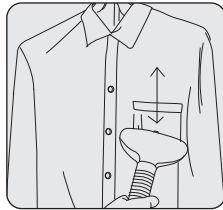

FIGURE 12
2. Grasp the handle, and place the steam head at the bottom of the garment. Steam will rise along the inside and outside of the fabric to remove wrinkles. Slowly slide the steam head vertically, from the top to the bottom (figure 12) of the garment steam iron. Do not allow kinks to form in the hose at any time.